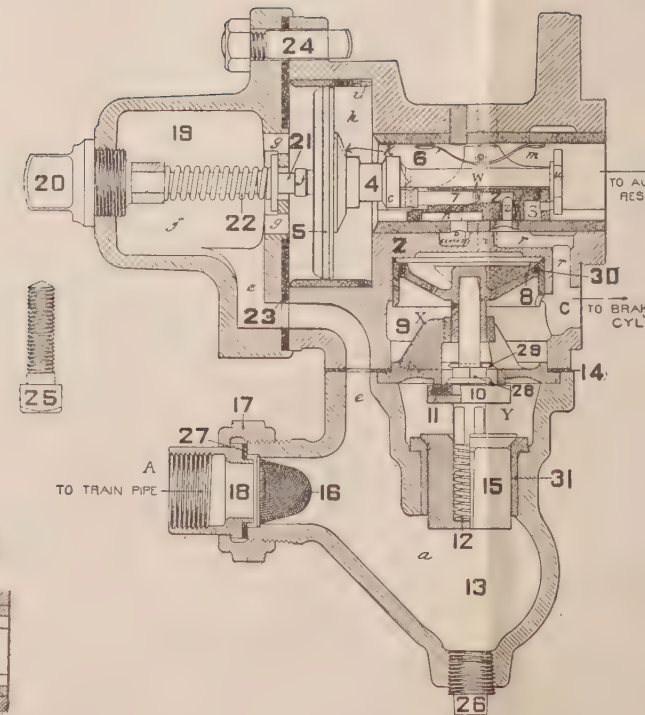
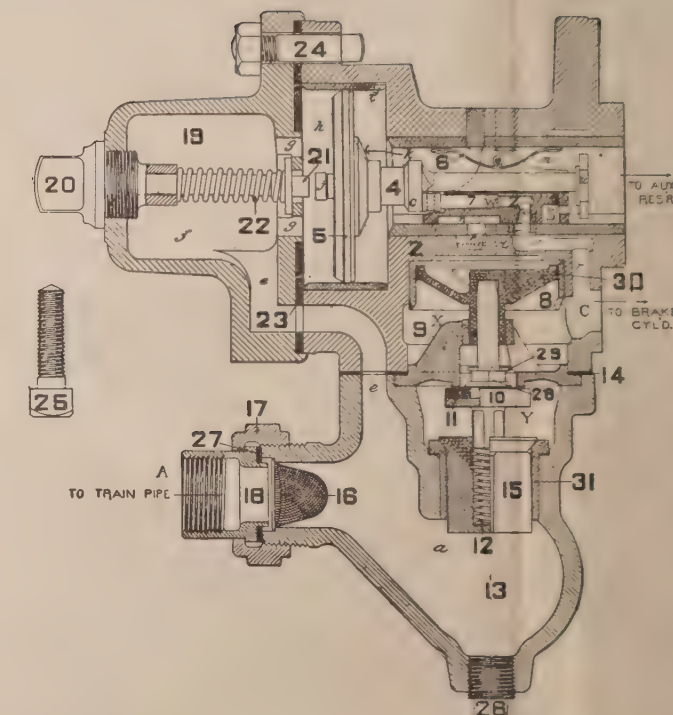

Fig. 289. Service Application.
Fig. 290. Lap Position.
A. By gradual pressure reduction, say of 5 pounds at first, leaving only 65 on the train-pipe face of the main piston, so that the auxiliary reservoir pressure forces the main piston to the left (Fig. 289), closing groove *i*, shutting off the auxiliary reservoir, and unseating valve 7, opening passage *W* to *Z*. The collar on the piston stem draws the slide valve to the left, cutting off exhaust cavity *n* from passage *r*. The main piston is stopped by the graduating stem 21. Ports *s* and *r* then register, and auxiliary reservoir air flows through *W*, *Z*, and *r* to the brake cylinder at *C*. When the auxiliary reservoir pressure has got down to less than 65 pounds, the train-pipe pressure forces the main piston back and seats the graduating valve, as shown in Fig. 290 ("lap position").